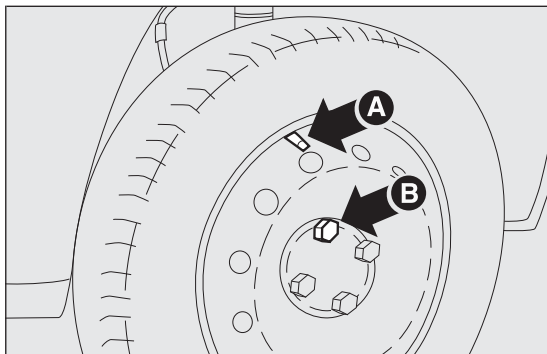

fig. 123
- fit the standard wheel by inserting the first bolt two threads B fig. 123 into the hole closest to the inflation valve A;